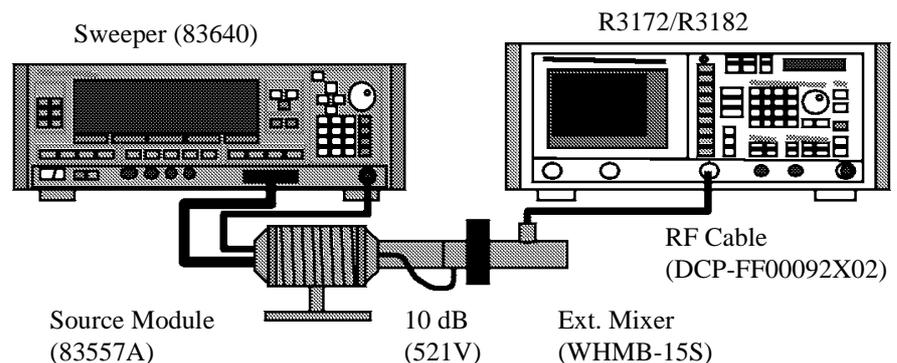

Figure 6-7 Setup of Noise Level Test
1. Connect equipment as shown in Figure 6-7.